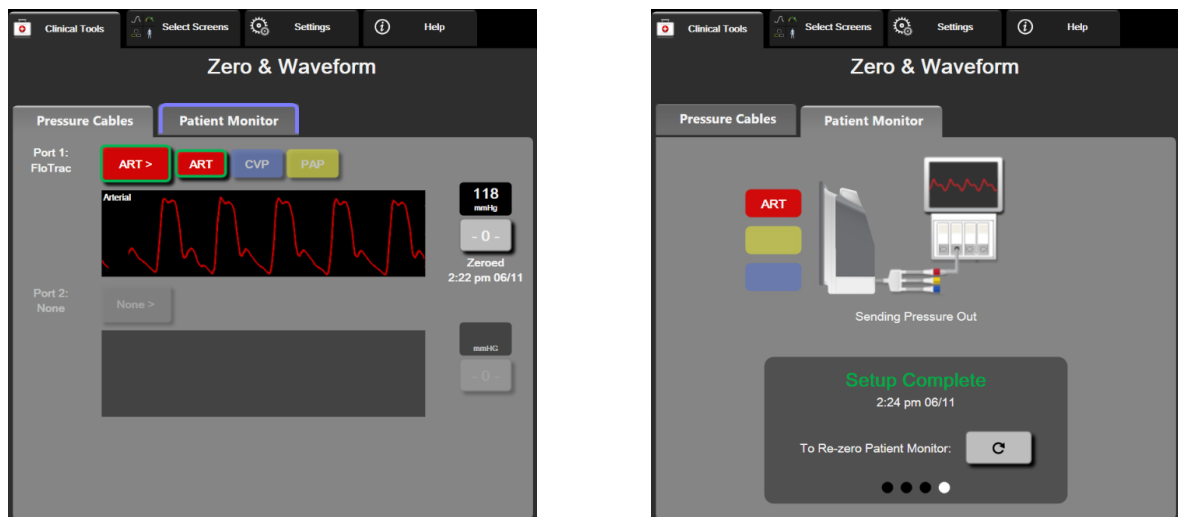

Figure 10-2: Zero & Waveform screens – Zero sensor and Pressure-Out
5. Touch the **Transmit Waveform** icon  to begin pressure signal output to the patient monitor. A **"Setup Complete"** message will be displayed when the live waveform is being transmitted to the connected patient monitor. See right screen shown in Figure 10-2 on page 186.